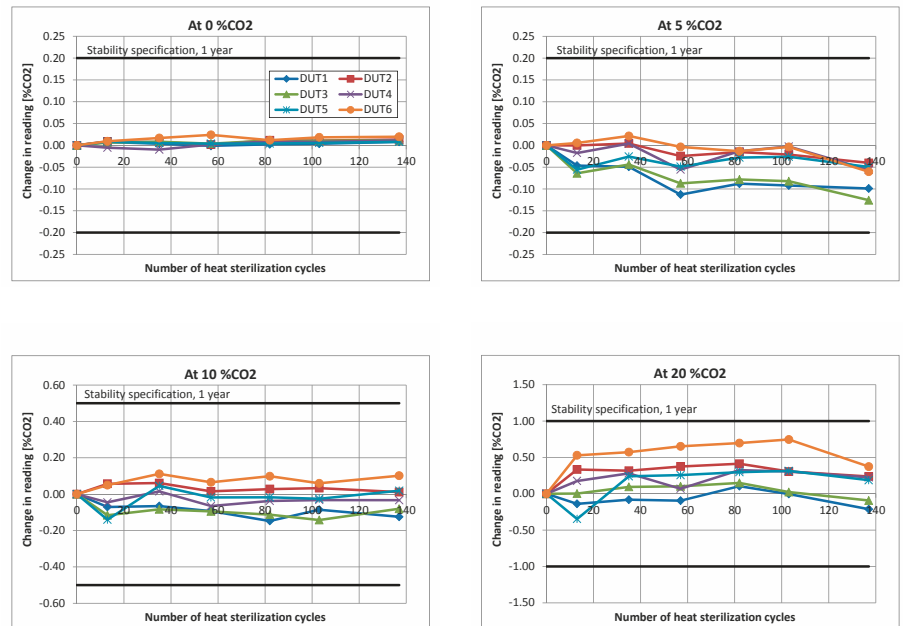

Figure 5. Results of the heat sterilization stability test.
Figure 5 shows the changes in the probe readings during the test with respect to the initial state. The long-term stability specification of one year is included in each plot (solid black line). It should be noted that as the sterilization is performed monthly in typical applications, the number of tested cycles (137) corresponds to more than ten years of typical operation. It is observed that the readings are very stable, do not show any clear trend with increasing high-temperature exposure, and are well within the one-year stability specification in all cases.